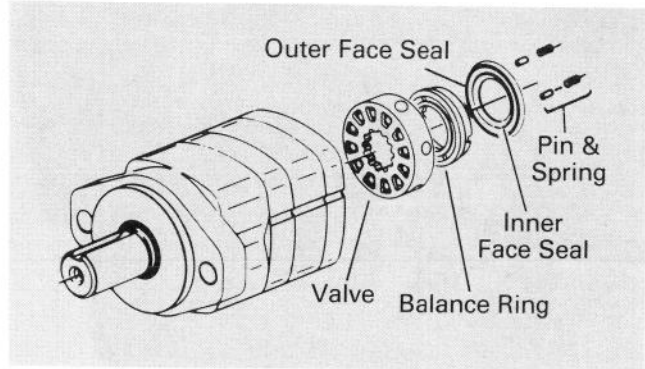

Figure 93
7. Remove 2 pins and 2 springs from balance ring assembly (Fig. 93).
8. Remove balance ring assembly (Fig. 93).
9. Remove inner and outer face seals from balance ring (Fig. 93).
10. Remove the valve (Fig. 93).